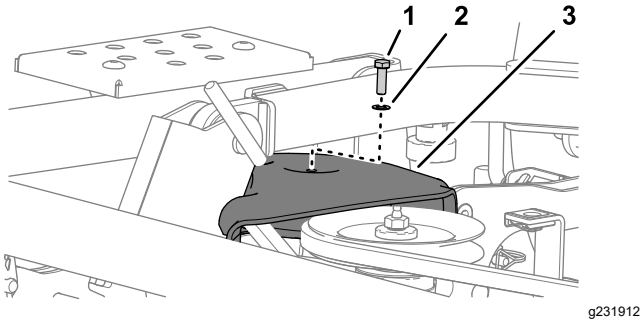

Figure 117
2. Remove the bolt and washer that secure the pulley cover to the mower deck (Figure 117).
1. Align the pulley cover over the right-most pulley; refer to Figure 117 in Removing the Pulley Cover \(page 79\).